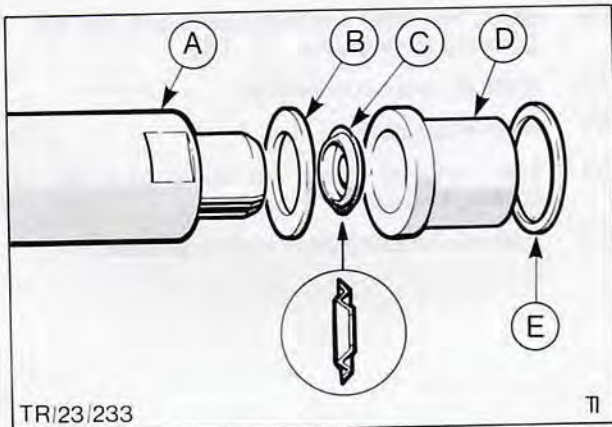

Fig. 58. Injector to head sealing washers
NOTE: In some cases the heatshield 'D' in, Fig. 58. will come out with the injector. If this happens a new sealing washer 'E' must be fitted.
- Using new wave washers refit sealing and wave washers to cylinder head, Fig. 58.
- NOTE: Ensure that washers are fitted the correct way round, (Refer 'C' in Fig. 58).